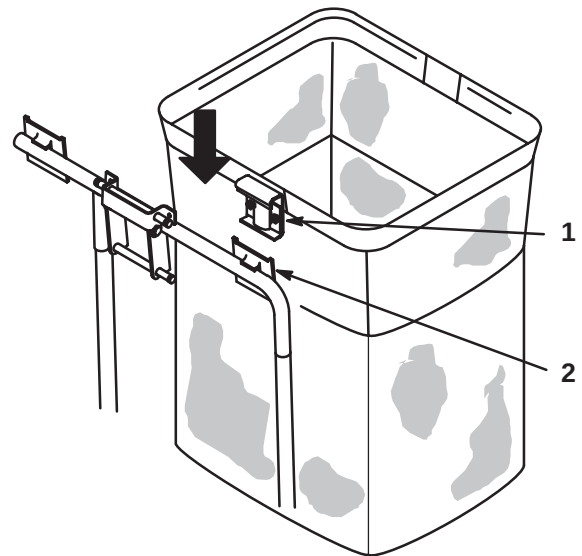

Figure 17
2. Install the bags by sliding the bag frame hooks onto the retaining brackets (Fig. 17).